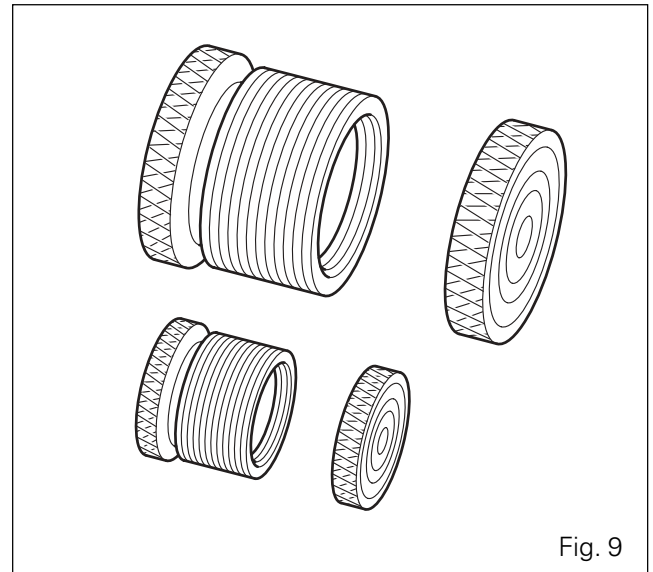

Fig. 9
- 3376935M91 – Set of plugs for air conditioning unions (Fig. 9).